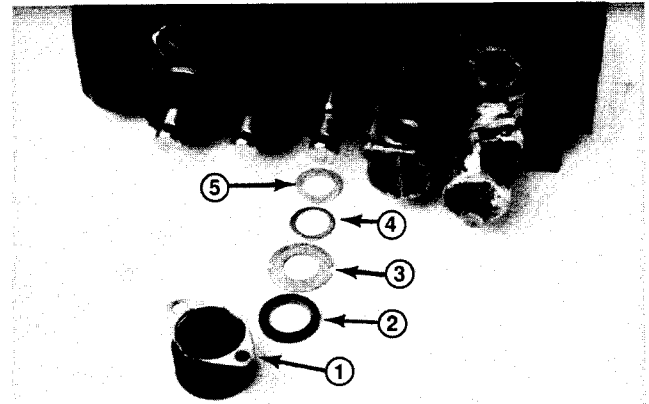

Figure 25
1. Remove the chain link, boot and breather washer from the spool (Fig. 25).